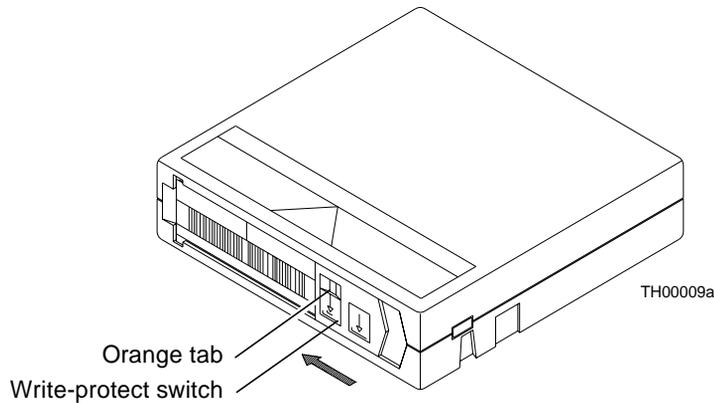

FIGURE 2-12 Setting the Write-Protect Switch
- **Move the write-protect switch to the left as indicated by the arrow in FIGURE 2-12.**